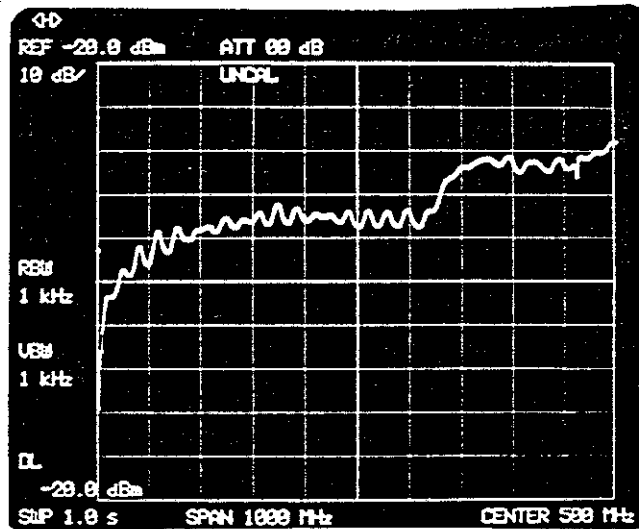

Figure 3-6 Setting the display line
Figure 3-6 shows an example where the display line is set to the top of the screen.
- (9) When changing the antennas and repeating measurement, set the averaging mode to OFF. Press the keys to cancel the normalizing mode. Then, restart measurement.
- (10) The TR4172 spectrum analyzer has been used in the measurement example shown above. When using a spectrum analyzer (or tracking scope) that does not have the display line and normalize functions, the waveforms before the test piece is inserted (shown in Figure 3-6) must be used as the reference level. The difference between the reference and the signal level after test piece insertion must be measured and the shielding effect must be evaluated. The on-screen waveforms should be taken by a camera for accurate measurement.